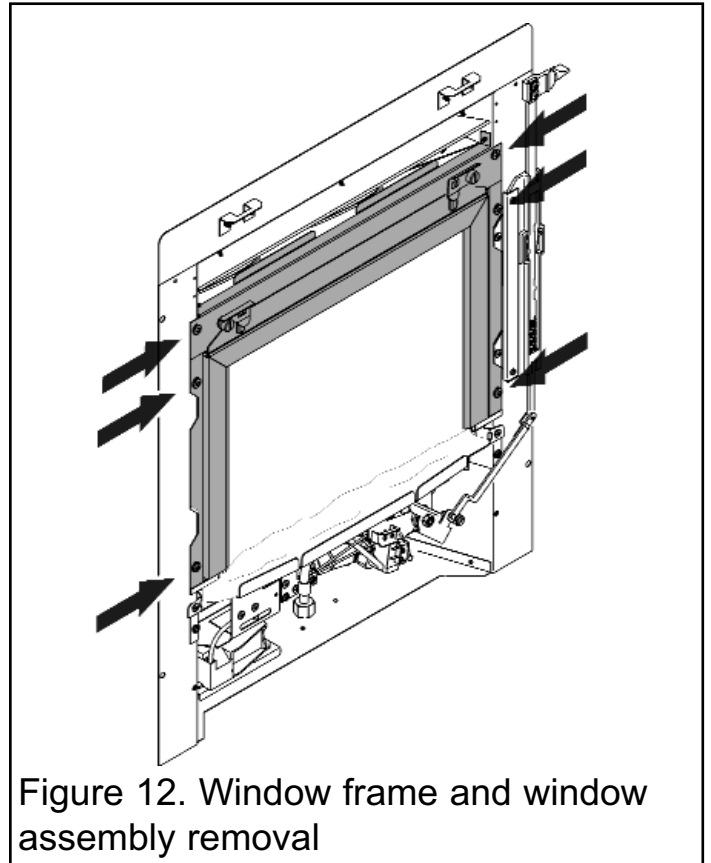

Figure 12. Window frame and window assembly removal
2. Unscrew and remove the six screws that secure the window mounting frame and window assembly. Remove and place away from the work area (See figure 12).